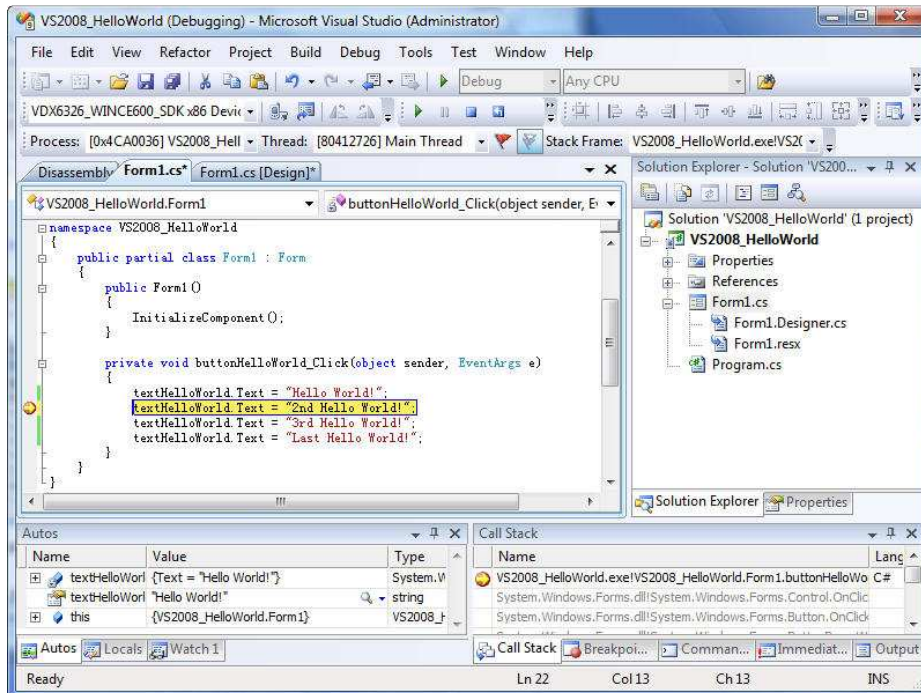

Fig. M15 - Execution halt at the breakpoint
- From the VS2008 IDE on the development workstation, the breakpoint highlight color changed to **yellow**, an indication the program is halt at this line of code, as shown in Figure M15.